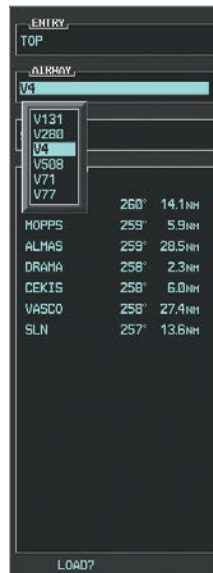

Figure 5-117 List of Available Airways for TOP
f) Select the **LD AIRWY** Softkey to display the list of available airways for TOP as seen in Figure 5-117.
g) Turn either **FMS** Knob to highlight V4 in the list as seen in Figure 5-117.